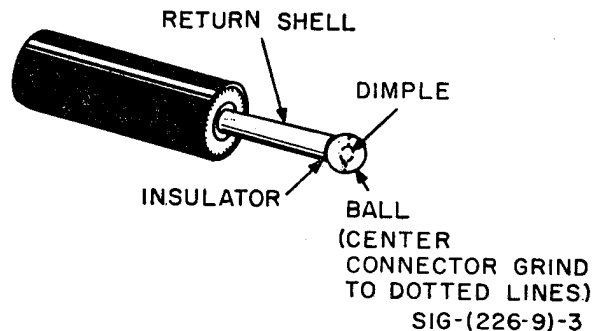

Figure 2. Filing the ball of Plug PL-55.
4. Fabrication. a. File down the ball of Plug PL-55 as shown in figure 2. After the ball has been filed flat, punch a dimple in the center of the flat surface with a center punch. The dimple should be suitable to accept the charging pin of the dosimeter.